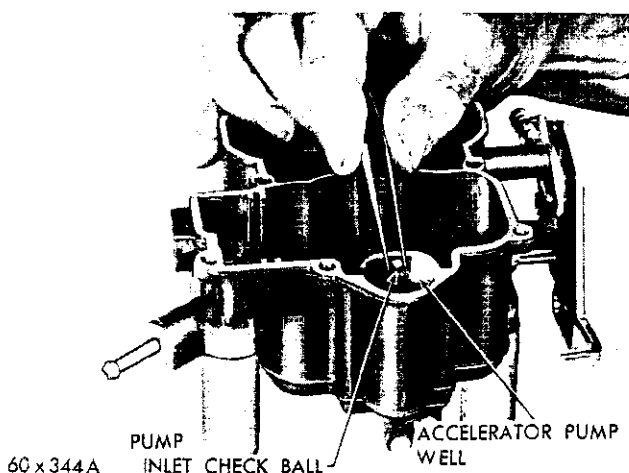

Fig. 15—Installing the Accelerator Pump Inlet Check Ball
(4) Install the accelerator pump inlet check ball ($\frac{3}{16}$ inch) in the pump well, as shown in Figure 15.